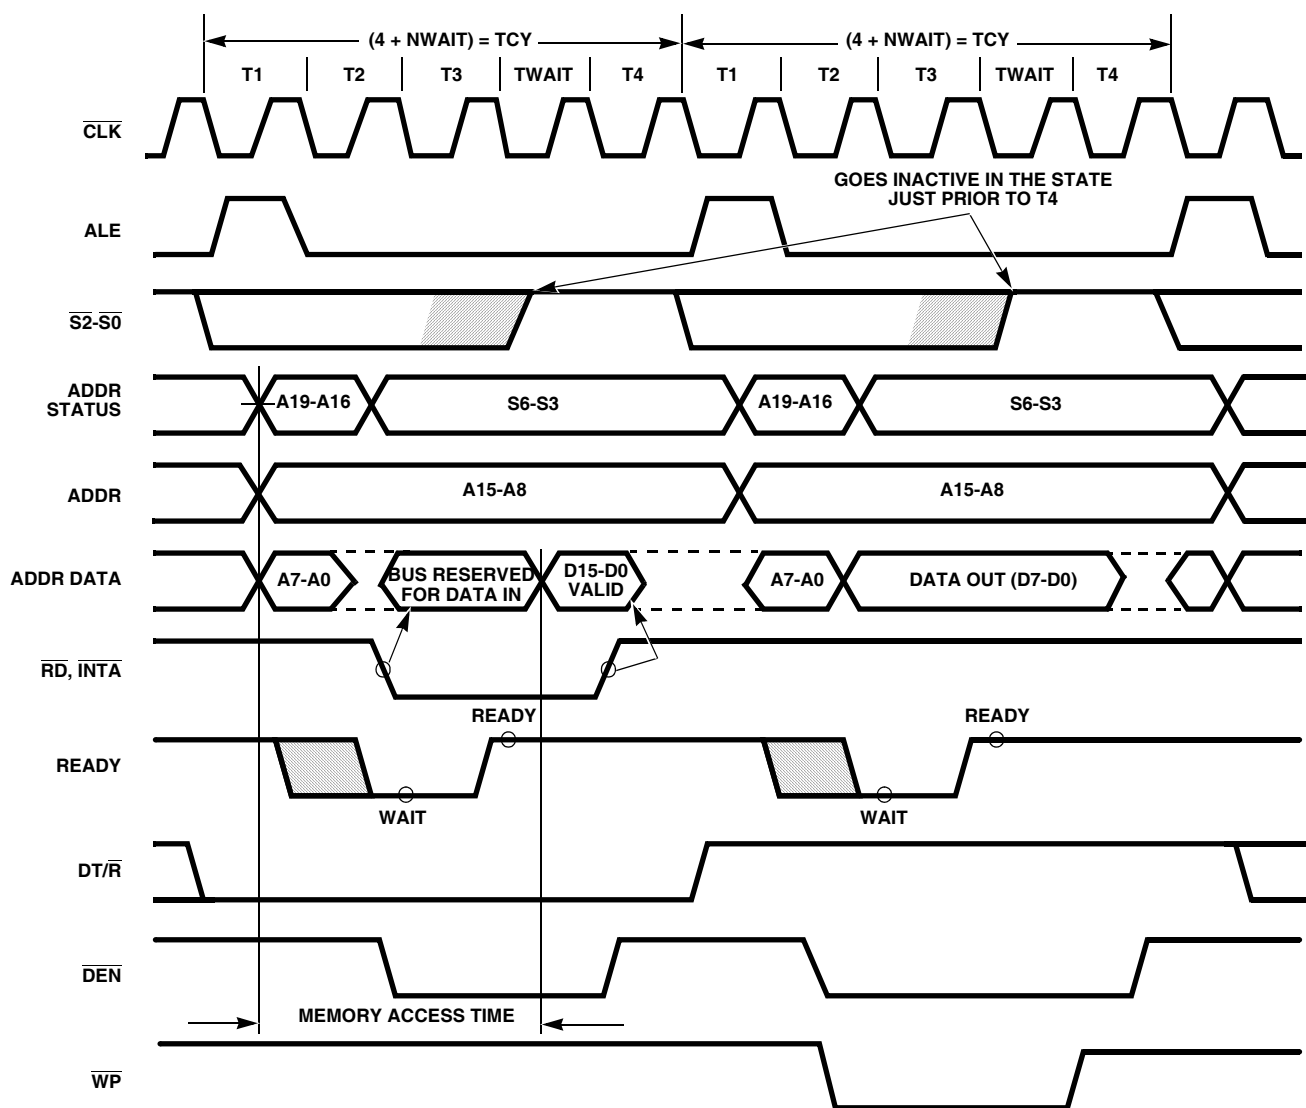

FIGURE 5. BASIC SYSTEM TIMING
Each processor bus cycle consists of at least four CLK cycles. These are referred to as T1, T2, T3 and T4. (See Figure 5). The address is emitted from the processor during T1 and data transfer occurs on the bus during T3 and T4. T2 is used primarily for changing the direction of the bus during read operations. In the event that a "Not Ready" indication is given by the addressed device, "wait" states (TW) are inserted between T3 and T4. Each inserted "wait" state is of the same duration as a CLK cycle. Periods can occur between 80C88 driven bus cycles. These are referred to as "idle" states (TI), or inactive CLK cycles. The processor uses these cycles for internal housekeeping.
The read cycle begins in T1 with the assertion of the address latch enable (ALE) signal (see Figure 5). The trailing (low going) edge of this signal is used to latch the address information, which is valid on the address data bus (AD0-AD7) at this time, into the 82C82/82C83 latch. Address lines A8 through A15 do not need to be latched because they remain valid throughout the bus cycle. From T1 to T4 the  $\text{IO}/\overline{\text{M}}$  signal indicates a memory or I/O operation. At T2 the address is removed from the address data bus and the bus is held at the last valid logic state by internal bus-hold devices. The read control signal is also asserted at T2. The read ( $\overline{\text{RD}}$ ) signal causes the addressed device to enable its data bus drivers to the local bus. Some time later, valid data